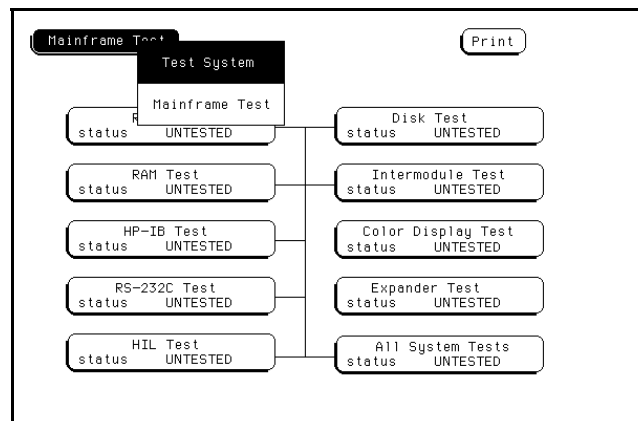

Figure 4-8. Exiting Mainframe Test System
- To exit the Mainframe Test system and to reload the mainframe operating system, touch the **Mainframe Test** field. Then touch the **Test System** field from the pop-up menu shown in figure 4-8. The Test System configuration will be displayed.